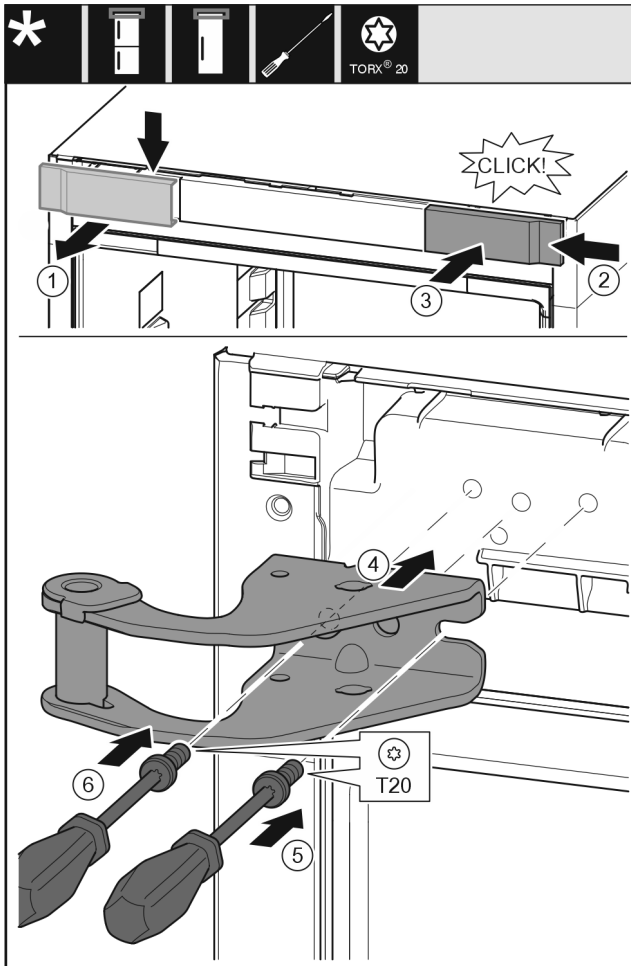

Fig. 15
- Remove the cover Fig. 15 (1) from above towards the front.
- Turn the cover Fig. 15 (2) by 180° and attach to the other side from the right.
- Engage the cover Fig. 15 (3).
- Place the top swap bearing block Fig. 15 (4).
- Use screwdriver Fig. 15 (5) to place the screw and tighten it.
- Use screwdriver Fig. 15 (6) to place the screw and tighten it.